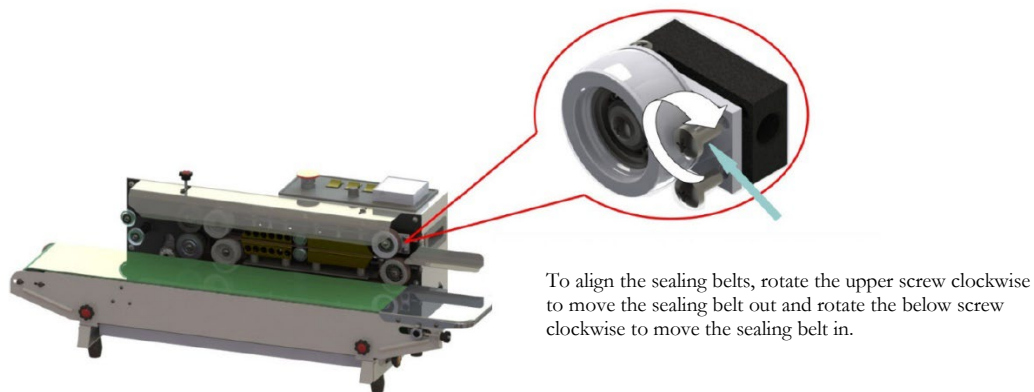

Figure 12. Adjusting sealing belts
4. If the sealing belt is running off the guide wheels, make adjustments to the screws that are found on the driven wheel set. See **Figure 12**.